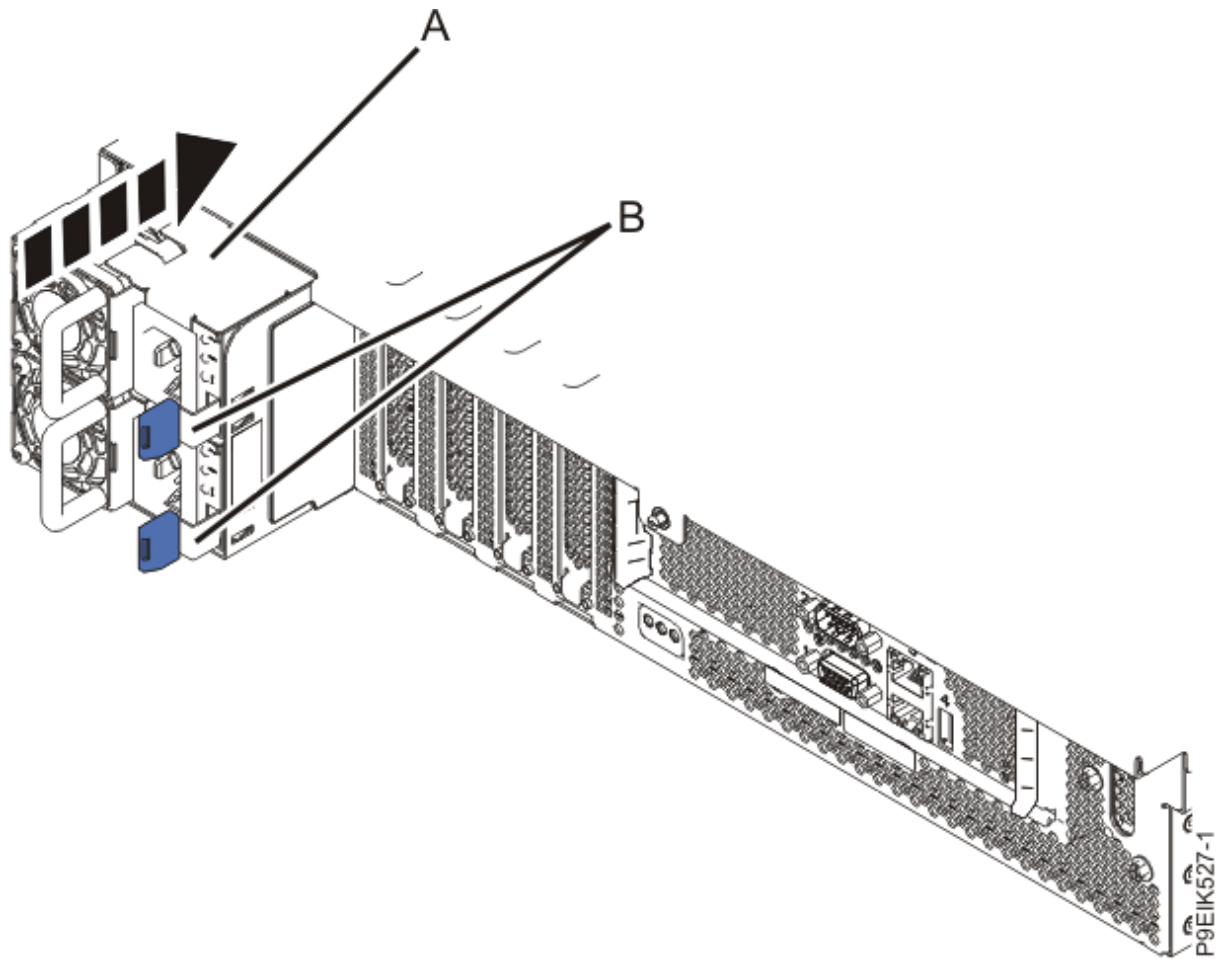

Figure 23. Replacing the power supplies in the system
4. Replace the power supplies as shown in Figure 23 on page 34.